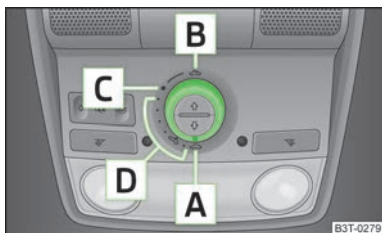

Fig. 27
The panoramic sliding roof with sun screen can only be operated with the rotary switch when the ignition is switched on » Fig. 27 on page 45. The control dial has several positions.
If the battery has been disconnected and reconnected, it is possible that the sliding/tilting roof does not close fully. This is why the rotary switch must be set to the switch position **A** » Fig. 27 on page 45 and pressed forward for about 10 seconds.
» Turn the switch to position **C** » Fig. 27.
» Turn the switch to a position in area **D** » Fig. 27.
» Turn the switch to position **B** » Fig. 27 and hold it in this position (spring-tensioned position).
- » Turn the switch to position **A** » Fig. 27.